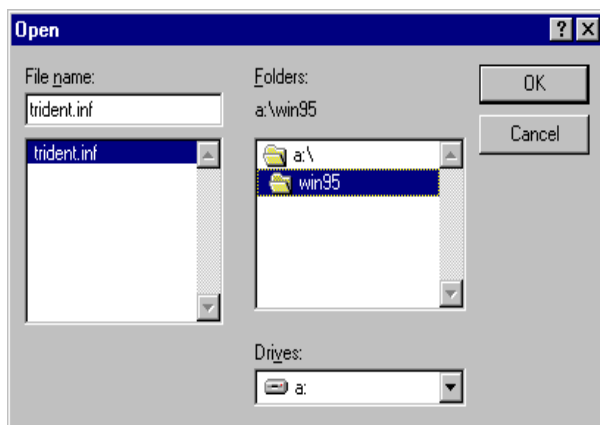

Figure 3-5.
6. After the “Have Disk” button is selected, an “Install From Disk” window will appear. **SELECT** the “Browse” button to browse the directory “X:\WIN95” of your diskette drive where X: stands for the drive letter of your diskette drive in your system (refer to Figure 3-5).